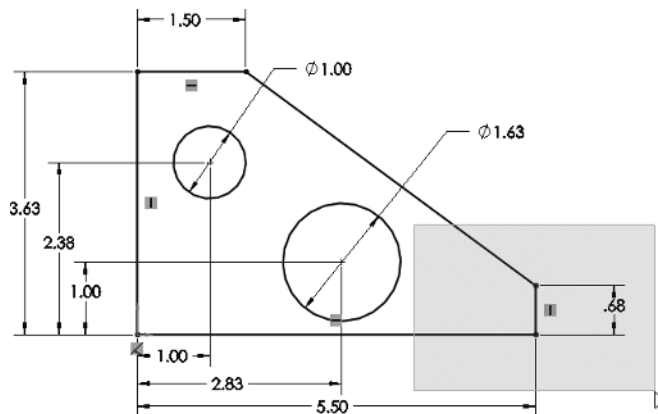

FIGURE 1.34 Box selection using the mouse
3. While still holding the left mouse button, drag the mouse from left to right. This is the box-selection window (see Figure 1.34). You can see how the two selection types differ in their visual cues. The box-selection window appears blue inside the box, and the boundary line is no longer dashed. For an entity to be selected, it must be fully inside the box.